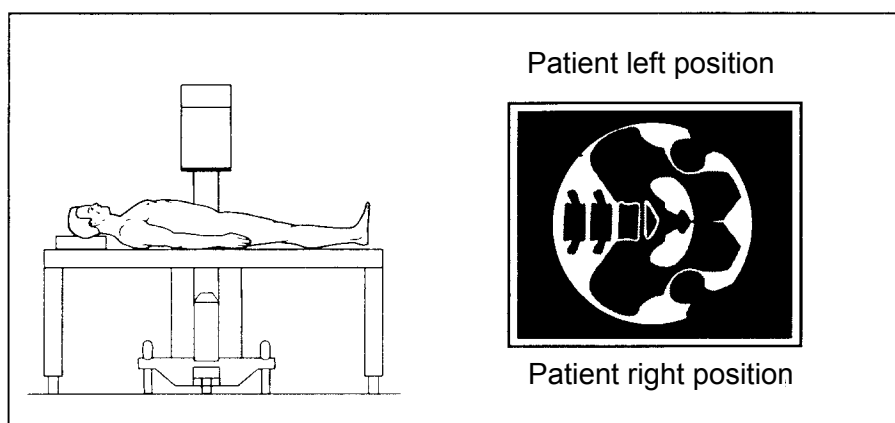
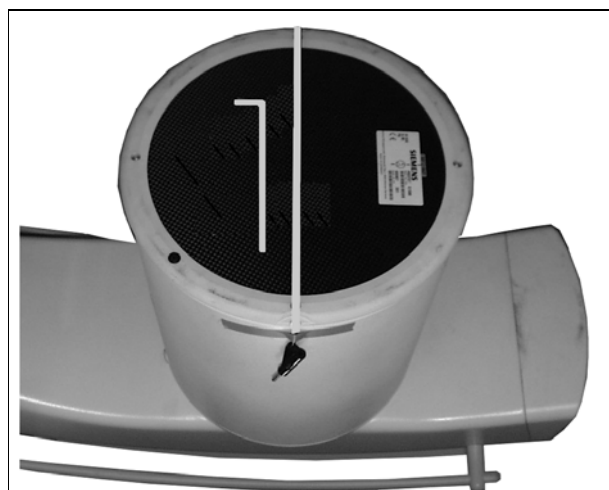
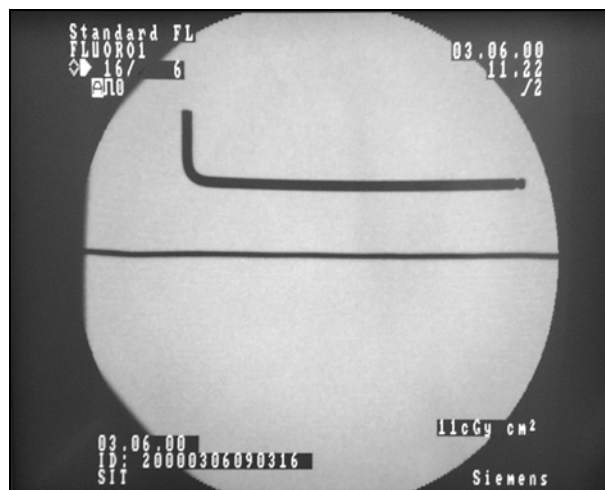

Fig. 3
Fig. 4
Fig. 5
The keys for horizontal and vertical image reversal must be off prior to adjusting camera rotation. Camera rotation should be set in the 0° position. Fig. 3, Fig. 4 and Fig. 5 show the 0° position.
- Start fluoro and set camera rotation to the 0° position. The image (left/right / up/down) corresponds to Fig. 3.
- Check the adjustments again. In the 0° position, the object image must correspond to the one in Fig. 3.